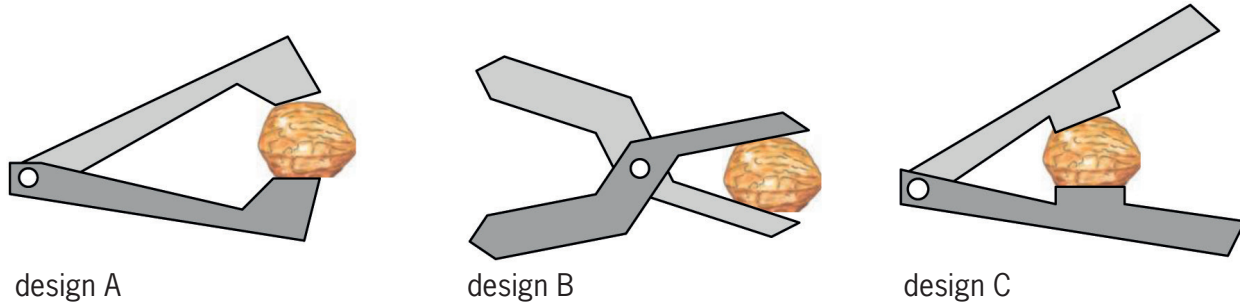

Figure 10
2. Make a quick sketch of Figure 10. Draw a hand in each case to show how you can press the hardest on the nut.